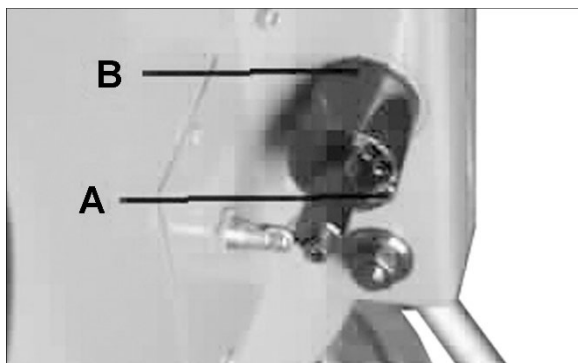

Figure 9-1
3. Loosen socket head screw (A, Figure 9-1).
4. Rotate adjustment nut (B) one turn clockwise.
5. Tighten screw (A).